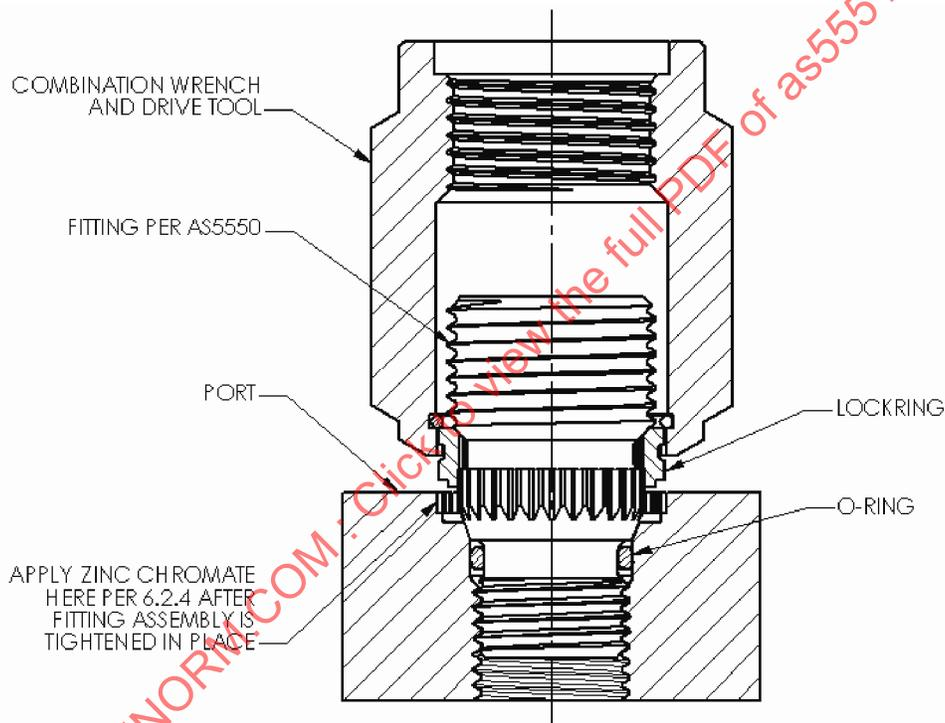

FIGURE 5 - Torquing Fitting Assembly
- 6.2.3 Using the applicable combination wrench and drive tool in Table 1B, engage the serrations of the tool with the external serrations of the lockring per Figure 5. Place a torque wrench of the proper size over the hex of the wrench and apply a torque equal to the minimum value specified in Table 1A. Note the relationship of the lockring serrations with respect to the prebroached serrations in the port. If they match, proceed to 6.2.4. If the lockring serrations do not match the prebroached serrations in the port, continue to slowly torque toward the maximum value allowed in Table 1A until the serrations match. This will normally take between 3° and 8° of turning, the maximum value need not be reached if the serrations align themselves prior to that value. Do not exceed maximum torque values.